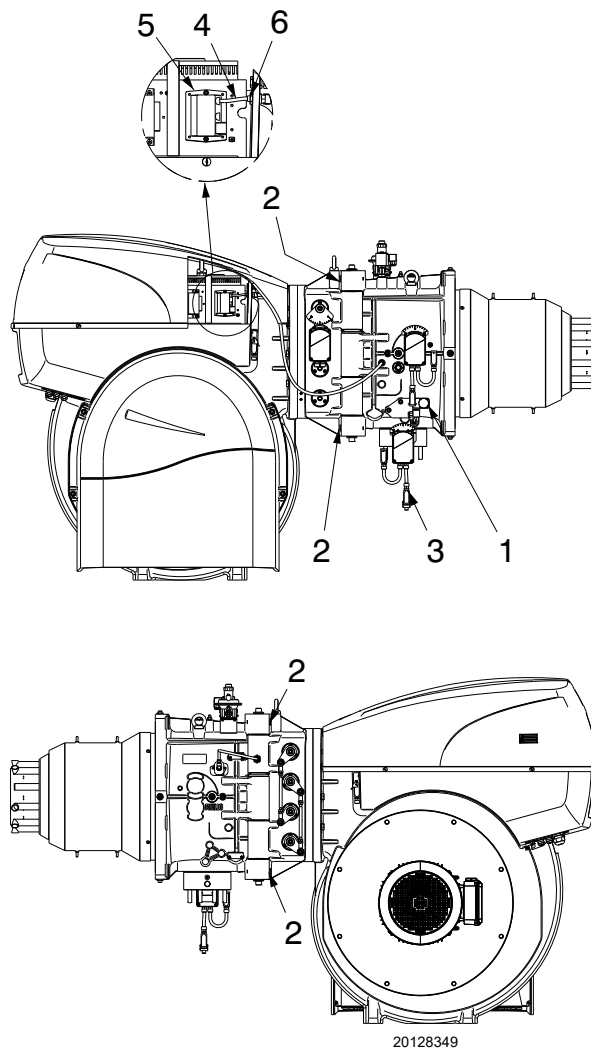

Fig. 35
- Disconnect the electrode cable from the gas pressure switch 1)(Fig. 35).